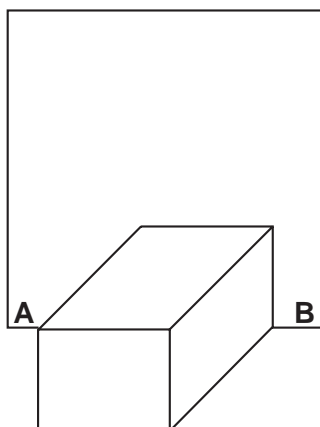

Fig. 4.1
1. The piece of card is to have one edge labelled **A** and the opposite edge labelled **B**. The card is to be fixed to a supporting block as shown in Fig. 4.1.